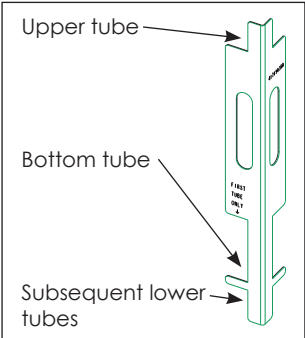
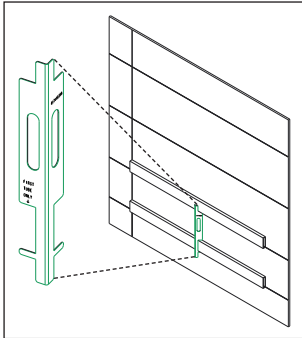
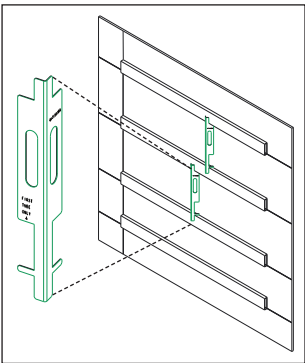

Figure 8: Horizontal Tube Layout Jig
Figure 9: Use Horizontal Tube Layout Jig for Bottom Row
Figure 10: Use Horizontal Tube Layout Jig for Subsequent Rows
8. Use a horizontal tube layout jig (Daktronics part number 0M-4171903) between the bottom tube and the next tube to set and verify the vertical spacing between the two tubes. Place the jig on the face of the tubes so the bottom tube sits in the cutout at the bottom of the jig and the upper tube rests on the cutout at the top of the jig. Refer to **Figure 8** and **Figure 9**.
For all subsequent rows, place the jig on the face of the tubes so the lower tube sits below the cutout at the bottom of the jig and the upper tube rests on the cutout at the top of the jig. Refer to **Figure 8** and **Figure 10**.